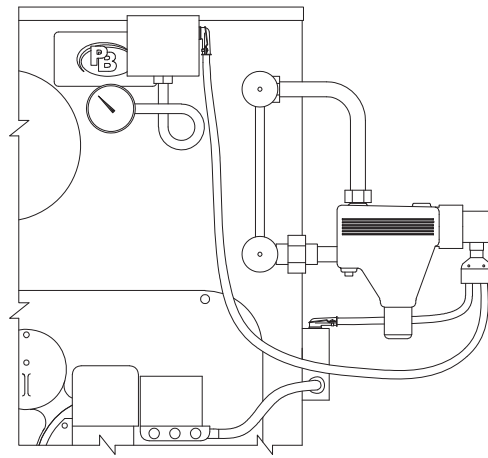

Figure 3.7: Float Low Water Cut-off
- a. Install the limit / operating control, pressure gauge, gauge glass trim and safety relief valve. See Figure 7.2 (Section 7), Figure 3.7 (float boilers) and cover photo (probe boilers).
- d. See Figure 3.7 for application of float low water cut-offs.